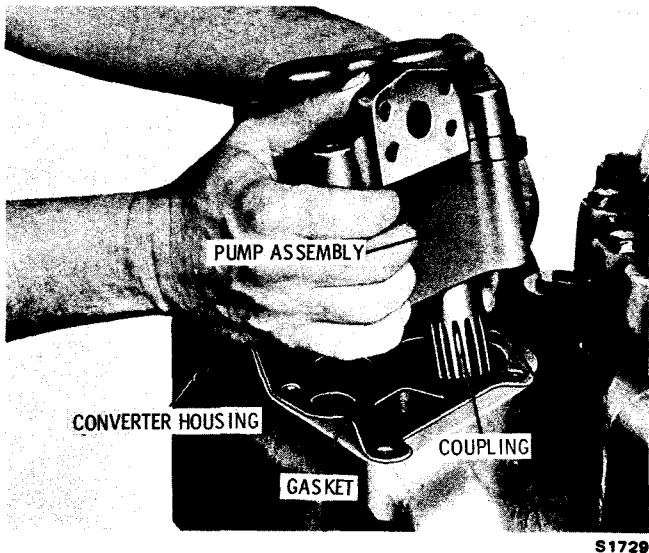

Fig. 7-92. Installing oil pump assembly
(1) Install the oil pump drive gear coupling onto the oil pump drive gear shaft (fig. 7-92). Install the oil pump gasket onto the converter housing. Install the oil screen, if removed during disassembly (ref para 5-3d(1)). Install the input-driven charging and